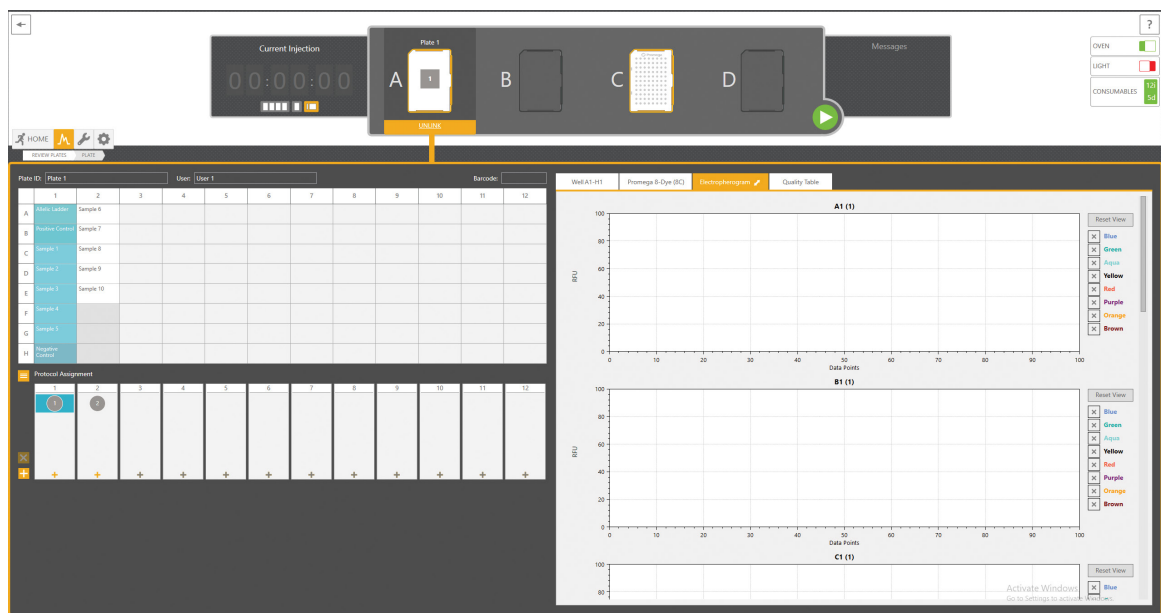

Figure 20. Linked plate in the Spectrum Control Software.
2. Open the draft plate record, then select **Link** in the Plate Position indicator under the position where the plate was placed. Once the plate is successfully linked, the text under the position will change status to **Unlink** and the Plate ID will appear above the position (Figure 20).